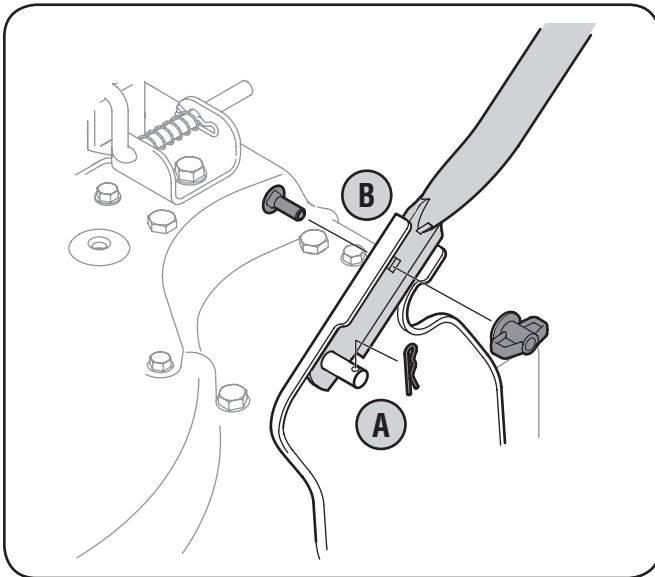

Figure 3-1
- a. Place the bottom holes in lower handle over the pins on the handle brackets and secure with hairpin clips. See Fig. 3-1.
- b. Insert carriage screws through upper hole in lower handle from the inside and secure with wing nuts. See Fig. 3-1.